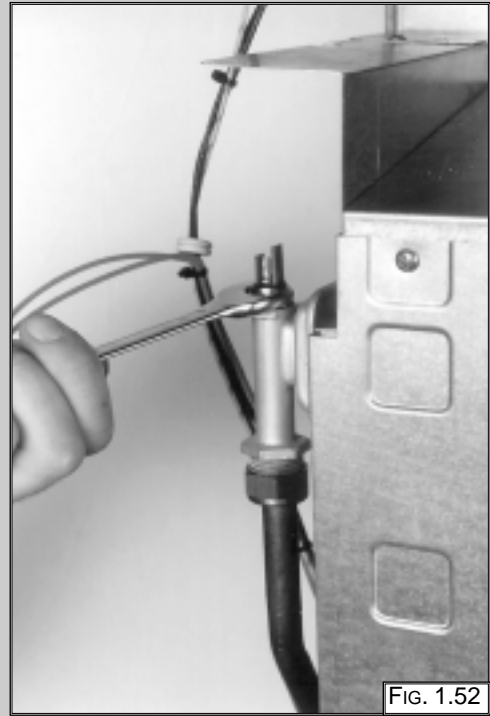

FIG. 1.52
1. Pull off the electrical connector and unscrew the sensor probe using a suitable spanner (FIG. 1.52).